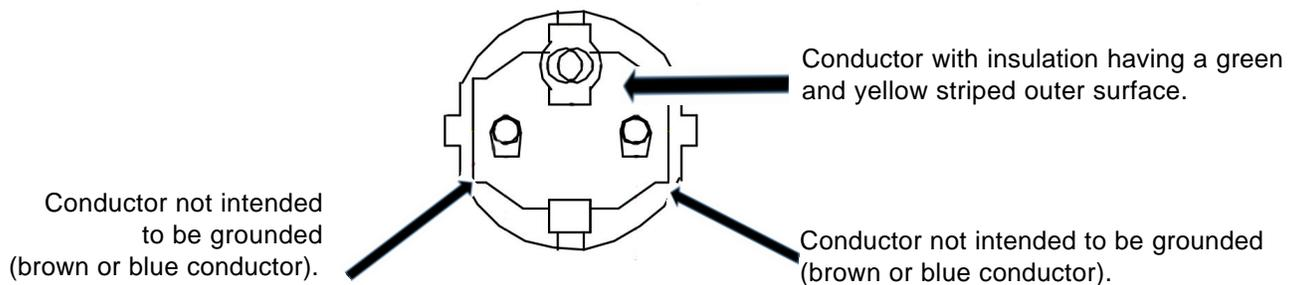

Figure 1 Connection to Attachment Plug
1. This 220 Volt Power Dart Blower should be grounded while in use to protect the operator from electric shock. The Power Dart Blower is equipped with a 3-conductor cord. It must be fitted with a 3-prong grounding type plug to fit the proper grounding type receptacle. The green and yellow conductor in the cord is the grounding wire. Never connect the green and yellow wire to a live terminal. See Figure 1